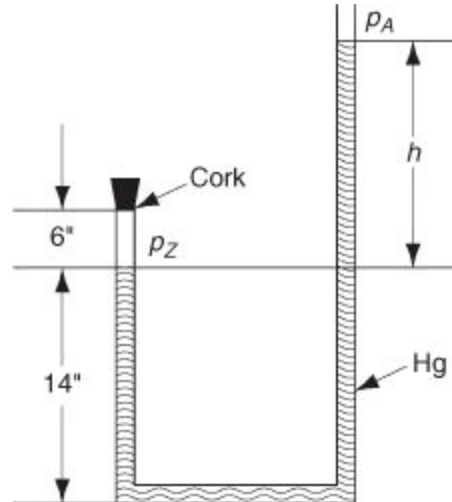

Figure P7.1.23
**7.1.23. The U-tube manometer depicted in Figure P7.1.23 has a left leg 20 in. high and a right leg 40 in. high. The manometer initially contains mercury to a depth of 12 in. in each leg. Then